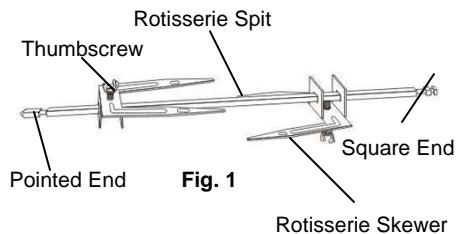

Fig. 1
- Insert the pointed end of rotisserie skewer through rotisserie spit making sure the points of the rotisserie skewer face in the same direction as pointed end of rotisserie spit. Slide rotisserie skewer towards square end of the rotisserie spit and secure with thumbscrew. (Fig. 1)